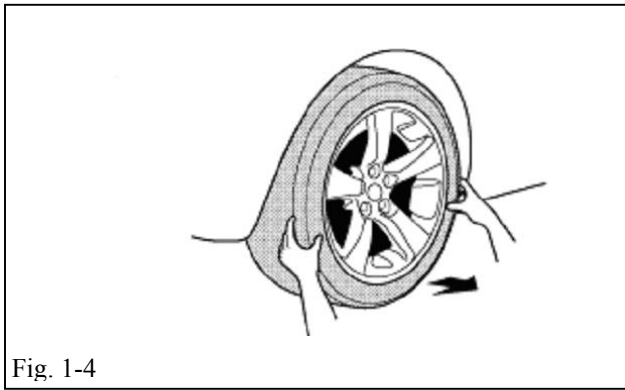

Fig. 1-4
- + (h) Remove remaining 4 OE wheel and tire assemblies from vehicle (Fig. 1-4). Wear safety glasses while removing wheels.